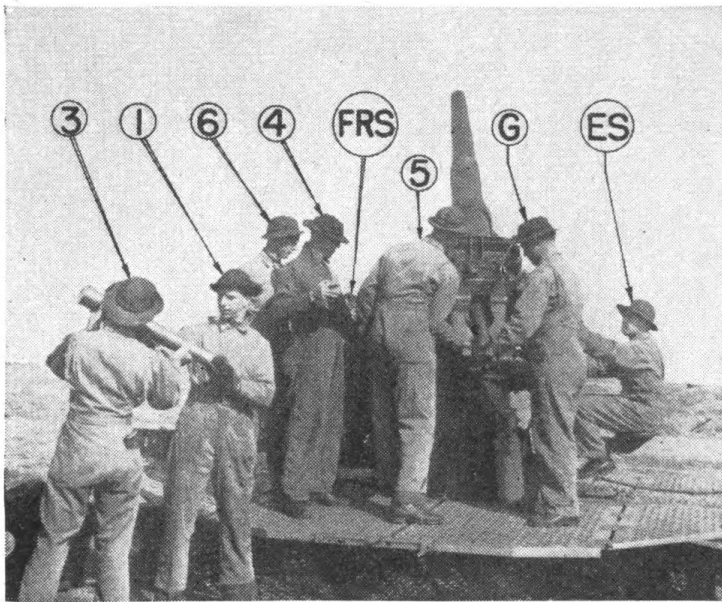

FIGURE 5.—Round being rammed, M3 gun on M2A2 mount.
Q. What are the duties of the members of the gun section at the various commands? *A.* See tables II, III, and IV, and figures 5, 6, and 7.